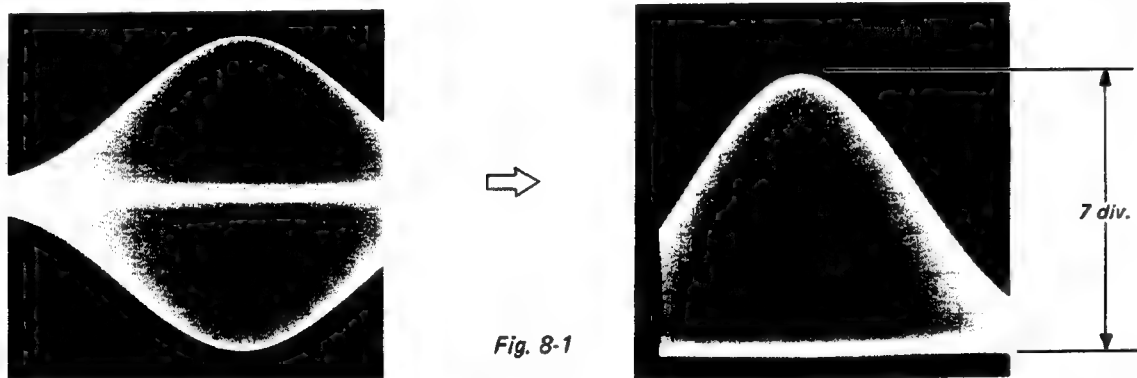

Fig. 8-1
- 3. Make the V/dw of oscilloscope into VARIABLE, and match the upper section of waveform to 7 div as shown in Fig. 8-1.